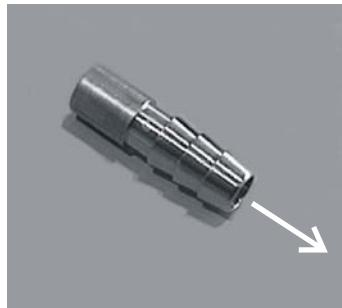

Figure 138: Insertion of nipple into water hose
2. Insert a hose nipple into the first water hose in the direction indicated in Figure 138.